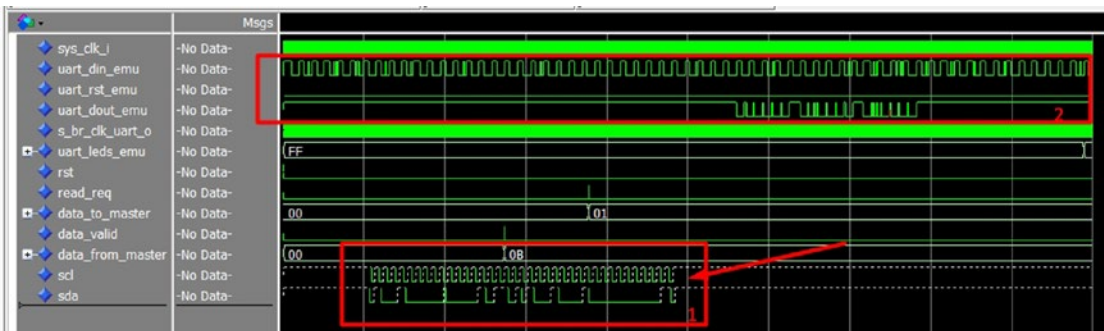

Figure 13-33. Simulation result
- After 1 ms of simulation runtime. The ModelSim wave window looks like Figure 13-33. The red box # 2 is the UART interface. The red back # 1 is the I2C interface.